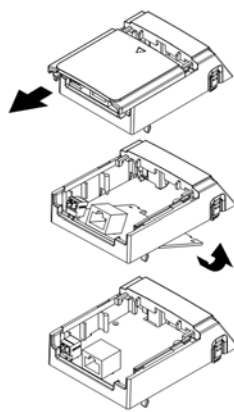

Figure 8-27
2. Assembling option cards: Detach the upper cover of the installation box for option card by slipping and place the terminal block and connector of the option card upward. Fix the front end of the option card to the slots, and then press another side, as shown in the Figure 8-27.